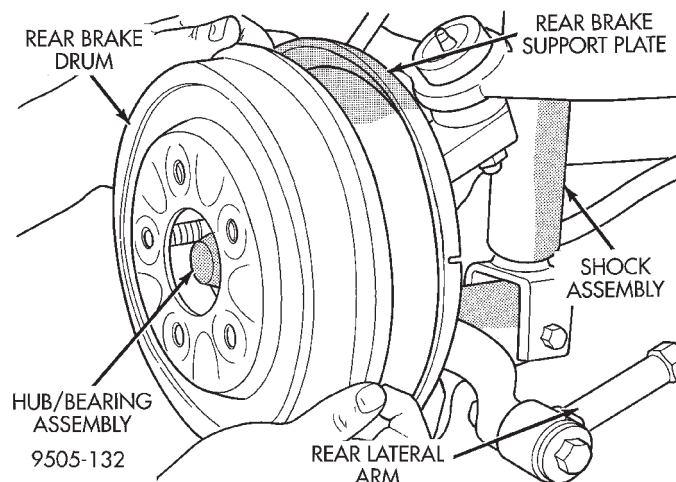

Fig. 81 Rear Brake Drum Removal
(1) Raise vehicle on jackstands or centered on a frame contact type hoist. See Hoisting in the Lubrication and Maintenance section of this manual for the required lifting procedure to be used for this vehicle.
(2) Remove rear wheel and tire assembly.
(3) Remove brake drum (Fig. 81) from rear hub/bearing assembly.